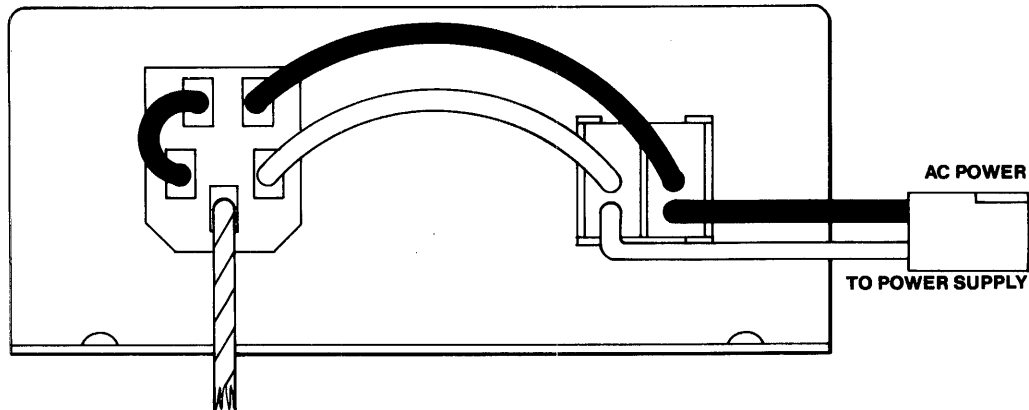

Figure 3-3. AC Power Assembly Connectors
1. Locate the Read/Write CPU board shown in Figure 3-3. Remove the cable going to the Read/Write head; note the correct connector orientation.